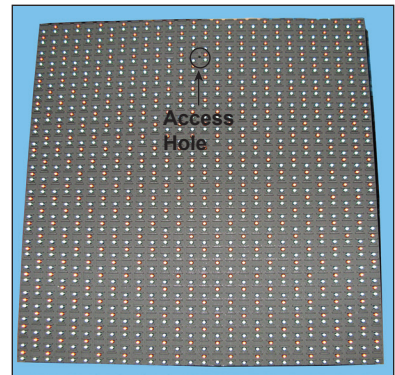

Figure 12: Module Access Hole
1. Insert the 1/8" hex head wrench into the top access hole. Refer to **Figure 12**.